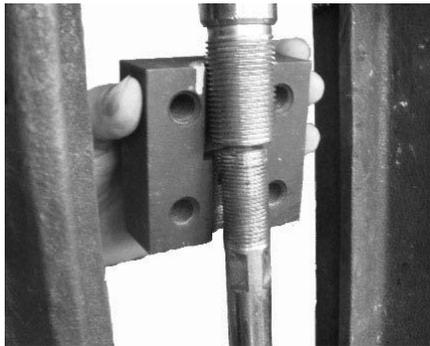

Figure 8
2. Connect manual loading panel tubing to the Top Plate (17).
4. Reconnect manual loading panel tubing from the Top Plate (17) to the Yoke (1), which is integrated into the bottom plate connection.
5. Retract the actuator stem either pneumatically or with a handwheel approximately .1" (2mm) using the visual stroke scale as shown in Figure 8.
2. Connect manual loading panel tubing to the top plate (17).
4. Extend the actuator stem either pneumatically or with a handwheel approximately .1" (2mm) using the visual stroke scale as shown in Figure 8.
5. Assemble the Split Clamp (22).
2. Connect manual loading panel tubing to the yoke (1), which is integrated into the bottom plate connection.
3. Retract the actuator stem either pneumatically or with a handwheel approximately .1" (2mm) using the visual stroke scale as shown in Figure 8.
4. Assemble the Split Clamp (22).